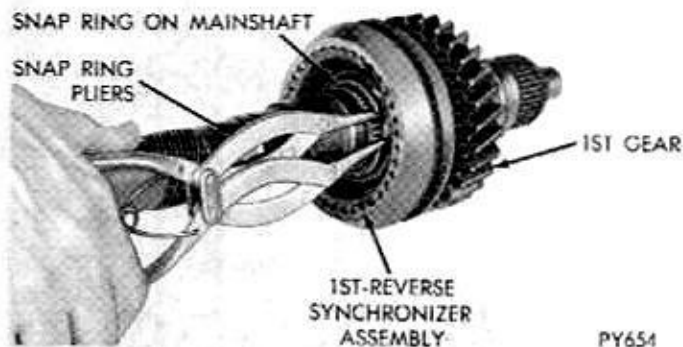

Fig. 21—Snap Ring—1st-Reverse Synchronizer Clutch Gear—Removal or Installation
(8) Remove from mainshaft the snap ring which retains the 1st-Reverse synchronizer clutch gear (Fig. 21).
(16) Install clutch gear snap ring on mainshaft (Fig. 21).